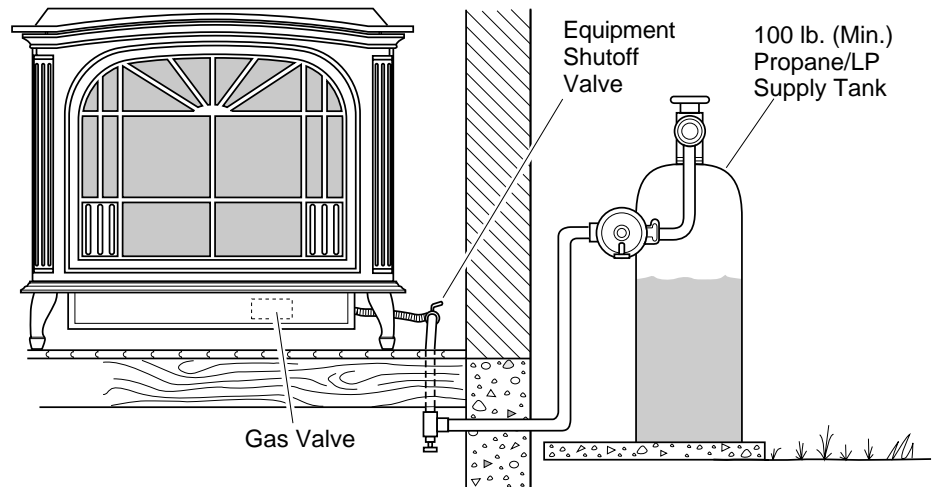
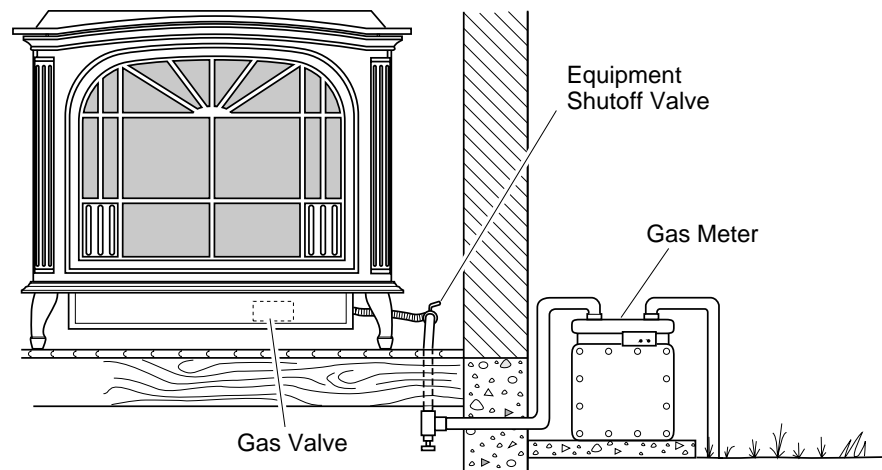

Figure 34 - Checking Gas Joints for Propane/LP Gas Burner System
Figure 35 - Checking Gas Joints for Natural Gas Burner System
3. Check all joints from propane/LP supply tank or gas meter to equipment shutoff valve (see Figure 34 for propane/LP or Figure 35 for natural). Apply commercial leak test solution to all gas joints. Bubbles forming show a leak. Correct all leaks at once.
4. Check all joints from equipment shutoff valve to thermostat gas valve (see Figure 34 for propane/LP or Figure 35 for natural). Apply commercial leak test solution to all gas joints. Bubbles forming show a leak. Correct all leaks at once.